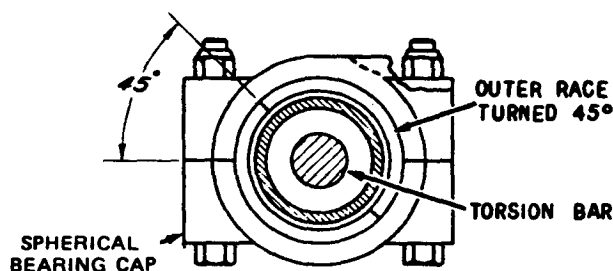

FIG. 9: POSITIONING OF THE SPHERICAL BEARING OUTER RACE
3. Place the Crank Assembly in the Frame Brackets. Install the other half of the Retainer Ring. Position the split in the Outer Races 45° to the split in the Frame Bracket (See Fig. 9).